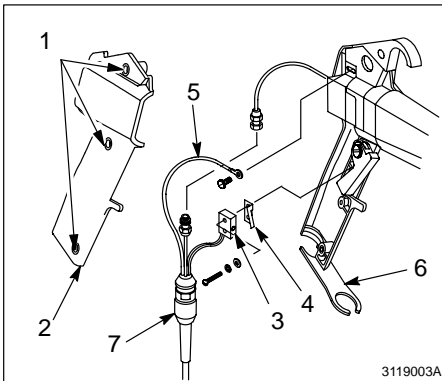
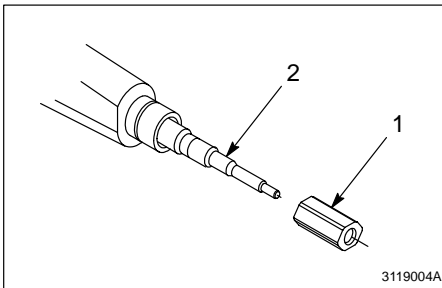

Fig. 3
Fig. 4
8. See Figure 3. Loosen the three screws (1) in the handle cover (2) and separate the handle halves.
9. Remove the switch (3) and actuator (4) from the handle. Do not lose the actuator, screws, or washers.
10. Disconnect the ground wire (5) from the hanger.
11. Rotate the hose bracket (6) slightly to release the cable (7) from the handle.
12. See Figure 4. Unscrew the cable retaining nut (1) and remove the electrostatic cable or multiplier from the extension.
13. Unscrew the old resistor probe (2) from the cable or multiplier.